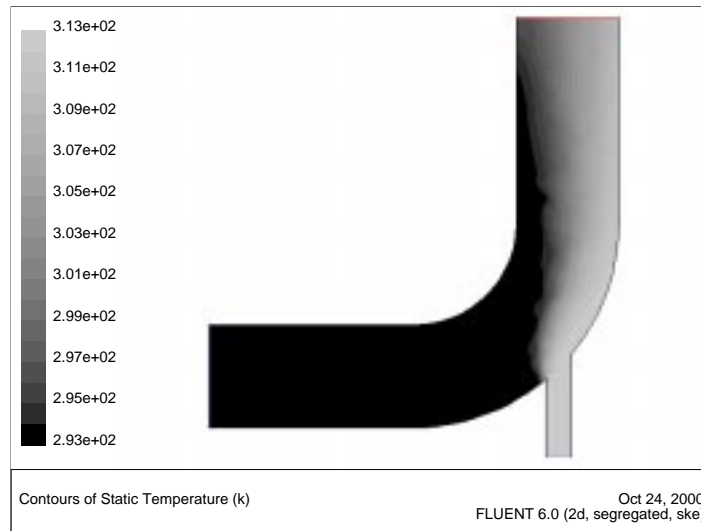

Figure 1.5: Predicted Temperature Distribution After the Initial Calculation
2. Display filled contours of temperature (Figure 1.5).
The thermal spreading after the elbow has been reduced from the earlier prediction (Figure 1.5).